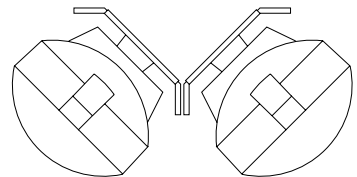

Figure 1. Using double brackets for 180° coverage with the 6155.
- INSTALLATION** Mount the Sharpshooter swivel bracket near a corner as shown in Figure 1. Connect the back case to the bracket and snap in the sighting mirror. Viewing the coverage pattern through the mirror, angle the PIR slightly toward the center of the room. The outside coverage zone should run parallel to, but not touch, the wall to be protected. With proper aiming you can reduce the unprotected space near the wall. You may want to mask the look-down zones on the 6071 long range lens. Using the AP425, insert the mirror mask over that portion of the mirror that “looks out” into the room. Walk-test the installation to ensure correct operation.